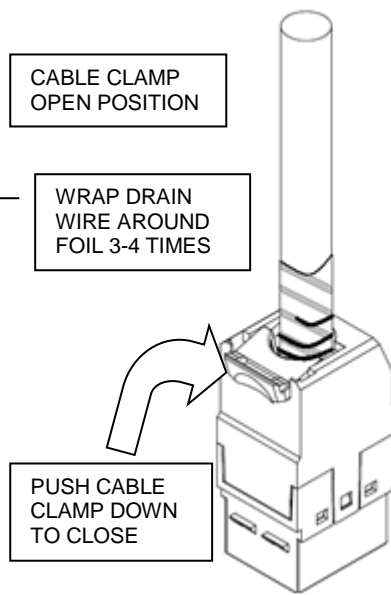

Fig. 6
3. Snap rear housing to jack (see Fig. 6).
4. Push clamp down to close clamp (see Fig. 6).